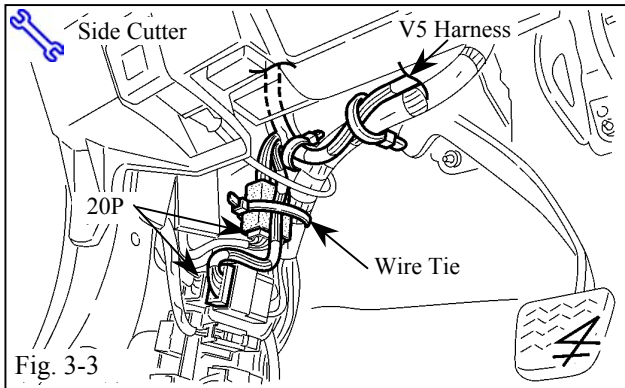

Fig. 3-3
- (c) Secure the 20P connectors and the V5 harness to the vehicle harness with one wire tie. (Fig. 3-3)